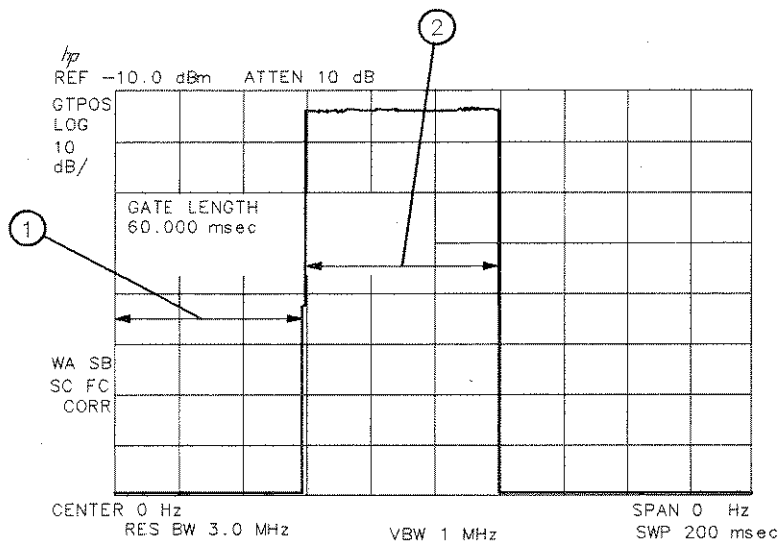

Figure 4-32. Gate On
- Press **Previous Menu**, **GATE ON OFF** (so that **ON** is underlined). See Figure 4-32.
Item	Description of Items in Figure 4-32